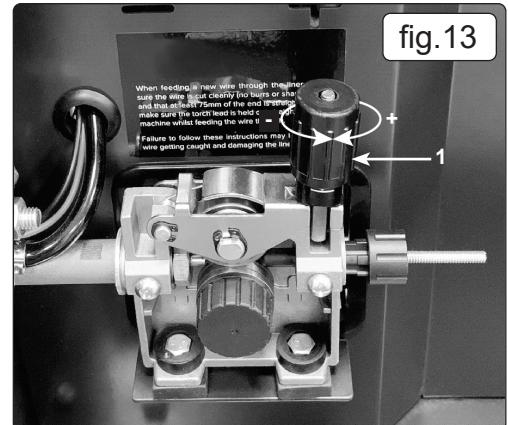

fig.13
- 4.13.4. Push down the pressure roller carrier onto the wire feed roller and hold it down. Lift up the locking/wire tension knob so that it enters the slot in the pressure roller carrier and snaps into the indent in its top surface. See fig.13. Rotate the tension knob to a medium setting i.e. between 2 and 3.
4.14.1. Adjust the wire tension by rotating the wire tension knob. Turn clockwise to increase the tension and anticlockwise to decrease the tension. See (1) in fig.13.